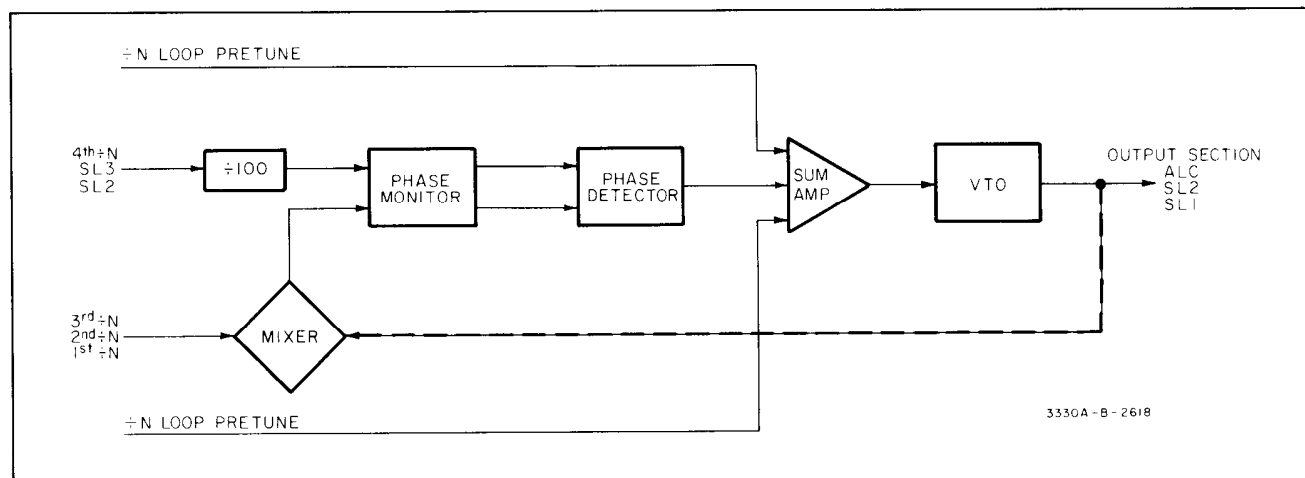

Figure 4-5. SL Loop.
**4-17.** Fine Tuning of the SL loop is accomplished with the signal applied to the  $\div$  100 and the signal applied to the Mixer (see Figure 4-5). The signal applied to the  $\div$  100 comes from the 4th  $\div$  N loop, the SL3 loop, or the SL2 loop depending on whether Figure 4-5 represents the SL3 loop, the SL2 loop, or the SL1 loop respectively. The frequency of this signal is 20.0 MHz to 30.0 MHz. The  $\div$  100 divides the signal to a range of 200 kHz to 300 kHz and applies it to the Phase Monitor. The signal applied to the Mixer comes from the 3rd  $\div$  N loop, the 2nd  $\div$  N loop, or the 1st  $\div$  N loop again depending on whether Figure 4-5 represents the SL3 loop, the SL2 loop, or the SL1 loop respectively. The frequency of this signal is 19.8 MHz to 29.7 MHz for the 2nd or 3rd  $\div$  N loop sources or 19.8 MHz to 32.8 MHz for the 1st  $\div$  N loop source. It is mixed with